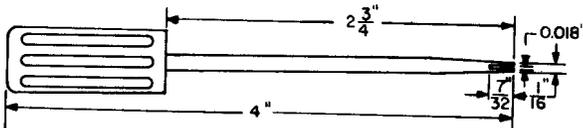

Fig. 5—363 Adjuster Tool
2.05 **363:** The 363 tool (Fig. 5) is a general purpose adjuster. The 363 tool replaces the 302 tool.